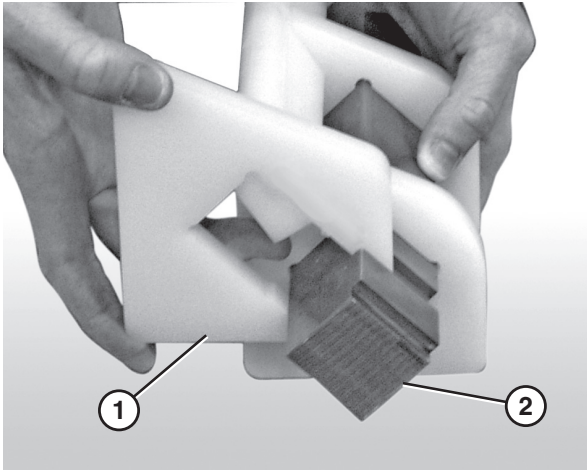

Figure 74
3. Attach the nose bar tracking pucks (Figure 74, item 1) to the nose bar drive post (Figure 74, item 2).